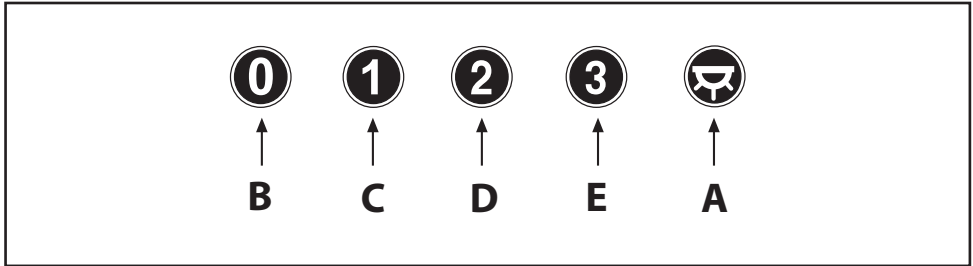

Fig.12
• **Commands mechanical (Fig.12)** the key symbols are explained below: